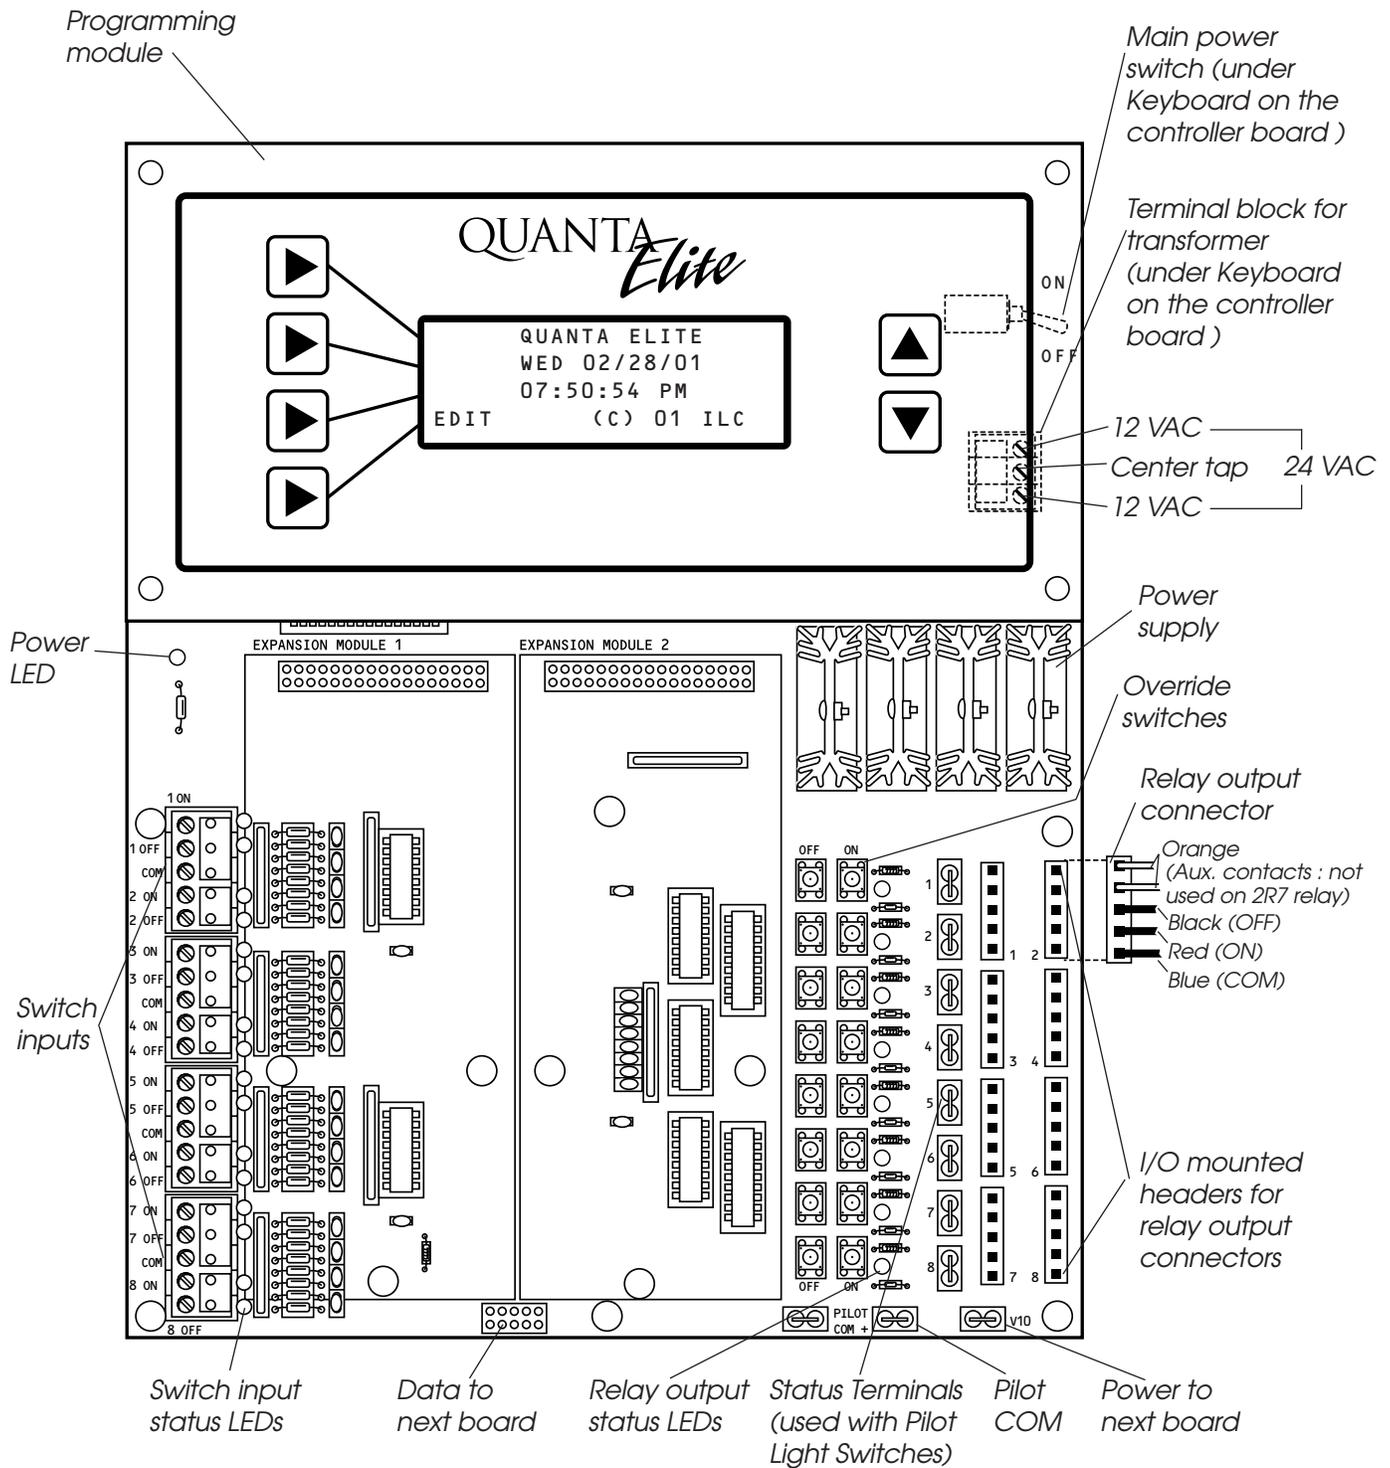

Figure 1.2 – CPU I/O Board
1.1.3 CPU I/O Board – (See Figure 1.2.) The CPU board provides the controller's intelligence and memory and the first eight (8) of the controller inputs and outputs. Major components include:
120 or 277 VAC loads rated up to 20 amps. The Class 2 low voltage control part of each relay is terminated to a relay output on the controller CPU I/O board. (See Figure 1.2.) Each relay output controls only one lighting relay.
Verify that there is 24 VAC on control transformer secondary and 12 VAC between each leg and the center tap. (See Figure 1.2.)